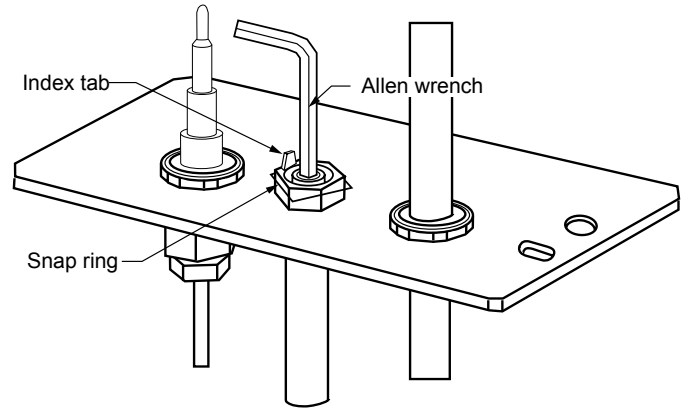

Fig. 80 Remove pilot orifice.
- Remove pilot orifice with Allen wrench. (Figure 80)